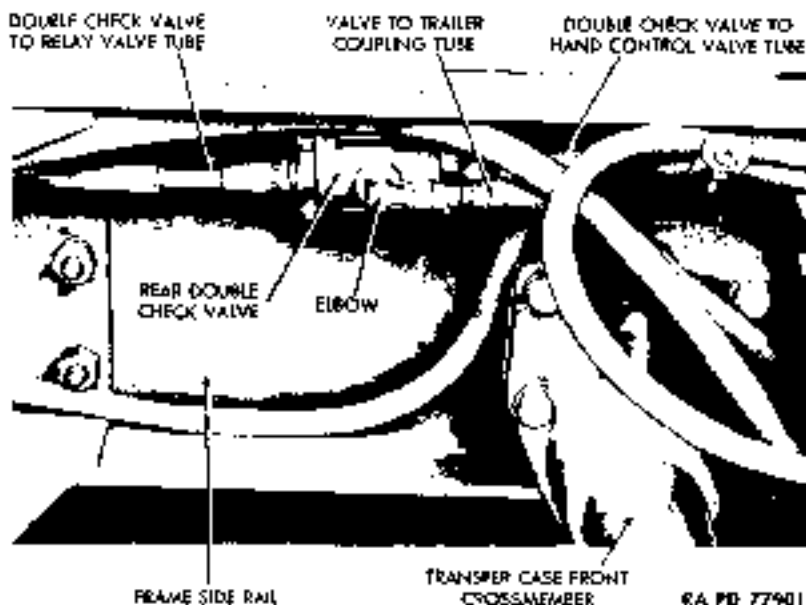

Figure 68 — Double Check Valve Installed
b. **Removal** (fig. 68). Disconnect the three air tubes from fittings at each end of valve and from elbow at center. Remove the two nuts, lock washers, and bolts which secure valves to frame side rail.
c. **Installation** (fig. 68). Position valve to frame side rail, and install the two bolts, lock washers, and nuts which secure valve to frame. Connect air tube to fitting at each end of valve. Connect air tube to elbow at center of valve, and refer to system diagram (fig. 60), if necessary. Start engine and build up air pressure. Check connections for leakage, and test operation of brakes. Leaks can be detected by applying soapy water to connections.